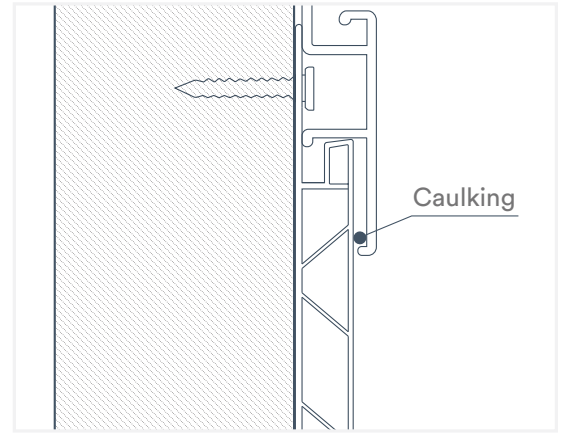

Fig. 16
3. If your installation is in a space with strong air movement, place a bead of silicone inside the bottom lip of the SlatWall panel where it meets the Wall&CeilingBoard panel(s) (Fig. 16). This ensures the panel will remain fixed in place. This step is optional.